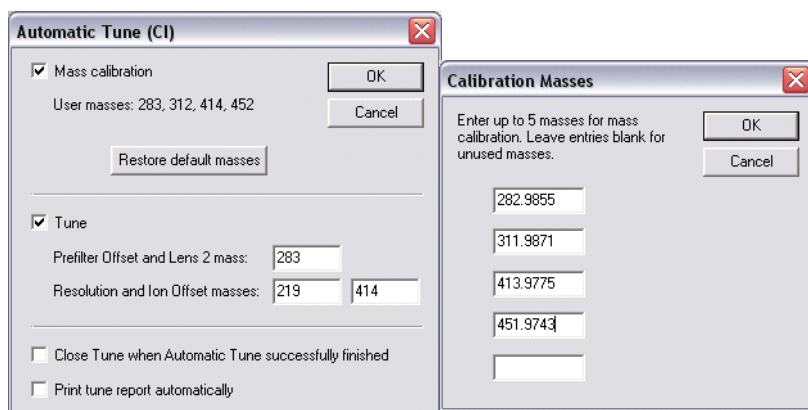

Figure 1-33 Automatic Tuning - Negative CI Tests
- e. Select **Tune | Automatic Tune** to display the **Automatic Tune (CI)** screen and enter the Prefilter settings displayed in Figure 1-33 Automatic Tuning - Negative CI Tests.